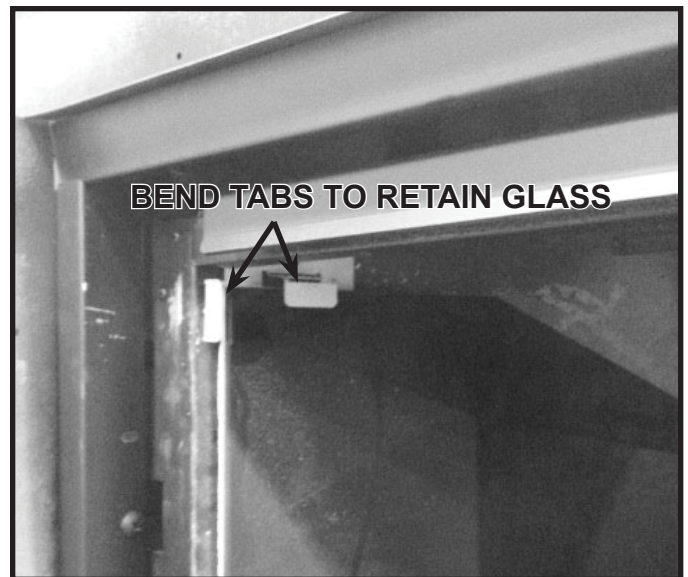

Figure 11.14 Left Refractory Tab
8. Slide left glass panel into the appliance until it contacts the rear glass panel. Ensure the notch is on the bottom side. Bend the refractory tabs over to retain the glass. See Figure 11.14.